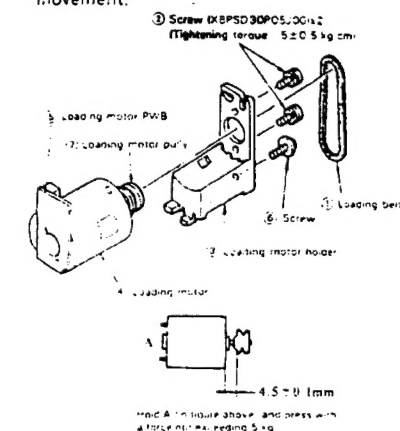

Figure 1-29
• Replacement (Fig. 1-29)
3. Remove the loading belt ①.
4. Remove the cup-tight screw ⑤ (XHPSD30P06WS0). Tilt the mechanism chassis for easy removal.
5. Remove the two screw ② (XBPSP30P05J00) and remove the loading motor ④ from the loading motor holder ③.
6. Remove the loading motor PWB ⑥.
7. Replace the loading motor along with the pulley ⑦.